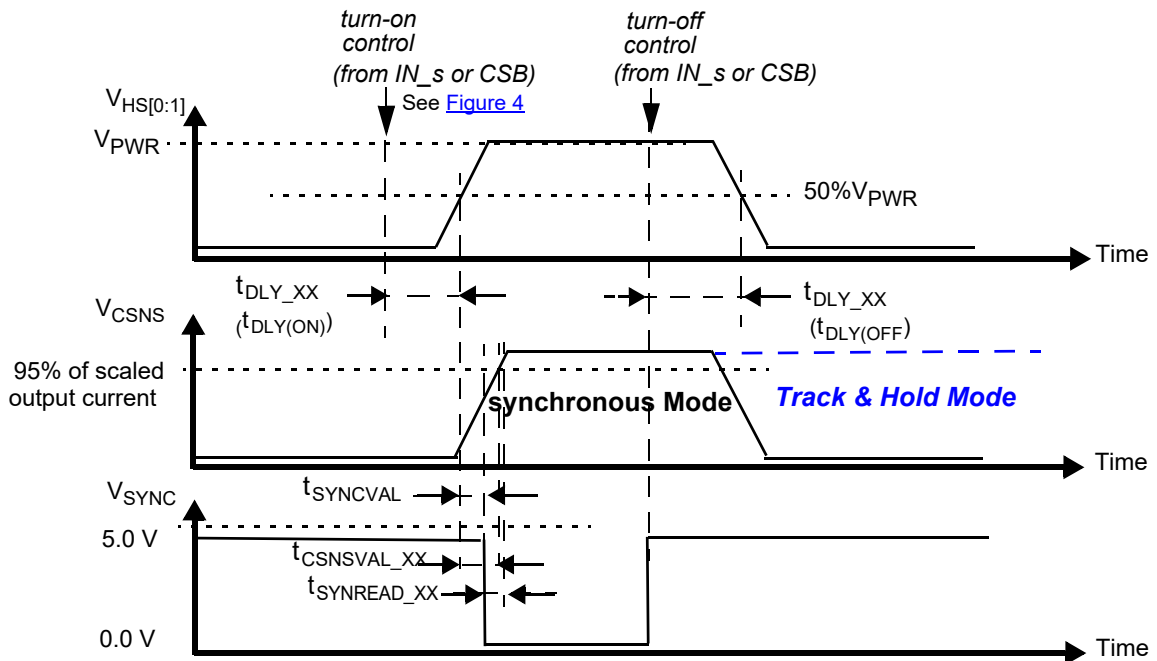

Figure 9. Synchronous and track-and-hold current sensing modes: associated delay and settling time
29. Time required to switch off the channel after detection of overtemperature (OT), overcurrent (OC), SC or UV error (time measured between start of the negative edge on the FSB pin and the falling edge on the output voltage until  $V(\text{HS}[0:1]) = 50\%$  of  $V_{PWR}$ ).
30. Settling time ( $= t_{CSNSVAL\_XX}$ ), SYNC output signal delay ( $= t_{SYNCVAL\_XX}$ ) and Read-out delay ( $= t_{SYNREAD\_XX}$ ) are defined for a stepped load current ( $100\text{ mA} < I(\text{LOAD}) < I_{OCLX\_A}$  FOR  $\text{CSNS\_RATIO\_S} = 1$ , AND  $300\text{ mA} < I(\text{LOAD}) < I_{OCLX\_A\_0}$  FOR  $\text{CSNS\_RATIO\_S} = 0$ ). See Figure 9 and Output current monitoring \(CSNS\).
The CS pin allows independent current monitoring of channel 0 or channel 1 up to the steady-state overcurrent threshold. It can also be used to sense the device temperature. The different functions are selected by setting bits CSNS1\_en and CSNS0\_en to the appropriate value (Table 23). When the CSNS pin is sensed during switch-off in the (optional) Track & Hold mode (see Figure 9), it outputs the scaled value of the load current as it was just before turn-Off. When several devices share the same pull-down resistor, the CSNS pins of devices the current of which is not monitored must be tri-stated. This is accomplished by setting CSNS0\_en = 0 and CSNS1\_en = 0 in the GCR register (Table 10). Settling time ( $t_{CSNSVAL\_XX}$ ) is defined as the time between the instant at the middle of the output voltage's rising edge ( $HS[0:1] = 50\%$  of  $V_{PWR}$ ), and the instant at which the voltage on the CSNS-pin has settled to  $\pm 5.0\%$  of its final value. Anytime an overcurrent window is active, the CSNS pin is disabled (see Overcurrent detection on resistive and inductive loads). The current and temperature sensing functions are unavailable in Fail-safe mode and in Normal mode when operating without the  $V_{DD}$  supply voltage. In order to generate a voltage output, a pull-down resistor is required ( $R(CSNS)=1.0$  k $\Omega$  typ. and  $470 < R(CSNS) < 10$  k). When the current sense resistor connected to the CSNS pin is disconnected, the CSNS voltage is clamped to  $V_{CL(CSNS)}$ . The CSNS pin can source currents up to about 5.6 mA.
To synchronize current sensing with an external process, the SYNC signal can be connected to a digital input of an external MCU. SYNC is asserted logic low when the current sense signal is accurate and ready to be read. The current sense signal on the CSNS pin has the specified accuracy  $t_{SYNCREAD\_XX}$  seconds after the falling edge on the SYNC pin (Figure 9) and remains valid until a rising edge is generated. The rising edge that is generated by the SYNC pin at the turn-OFF instant (internal or external) may also be used to implement synchronization with the external MCU. Parameter  $t_{SYNCVAL\_XX}$  is defined as the time between the instant at the middle of the output-voltage rising edge ( $HS[0:1] = 50\%$  of  $V_{PWR}$ ), and the instant at which the voltage on the SYNC-pin drops below 0.4 V ( $V_{SOL}$ ). The SYNC pins of different devices can be connected together to save  $\mu$ -controller input channels. However, in this configuration, the CSNS function of only one device should be active at a time. Otherwise, the MCU does not determine the origin of the SYNC signal. The SYNC pin is open drain and requires an external pull-up resistor to VDD.